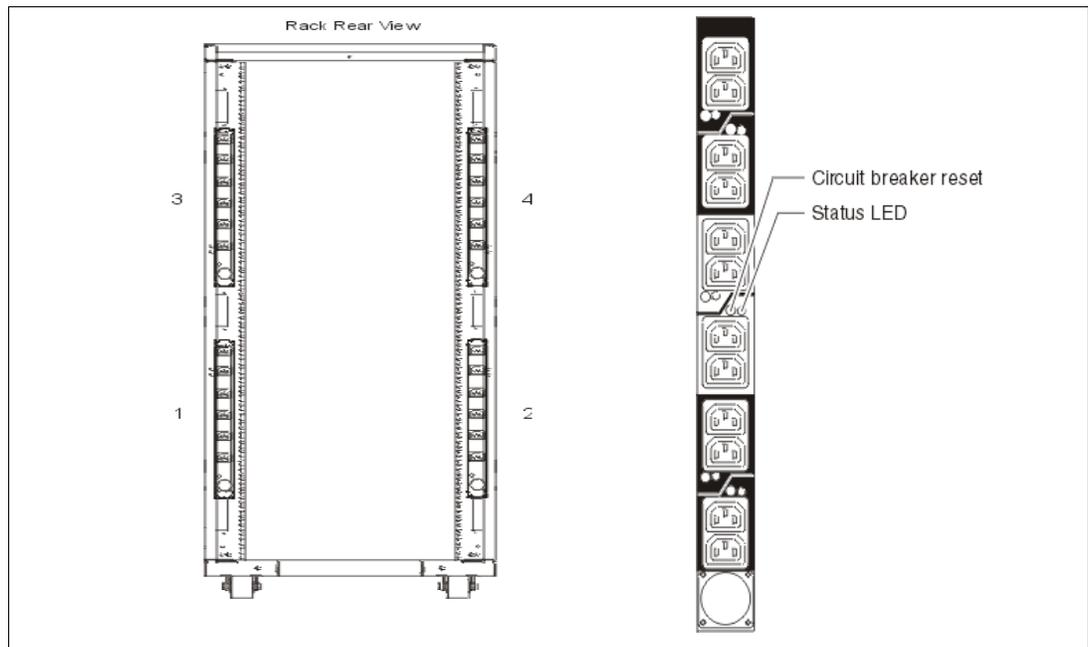

Figure 1-4 PDU placement and PDU view
- ▶ Up to four power distribution units (PDUs) can be mounted in the PDU bays (see Figure 1-4 on page 18). Additional PDUs can fit inside the rack (see 1.5.6, "The ac power distribution unit and rack content" on page 17).
Four PDUs can be mounted vertically in the T00 and T42 racks. See Figure 1-4 on page 18 for placement of the four vertically mounted PDUs. In the rear of the rack, two additional PDUs can be installed horizontally in the T00 rack and three in the T42 rack. The four vertical mounting locations will be filled first in the T00 and T42 racks. Mounting PDUs horizontally consumes 1U per PDU and reduces the space available for other racked components. When mounting PDUs horizontally, we recommend that you use fillers in the EIA units occupied by these PDUs to facilitate proper air-flow and ventilation in the rack.